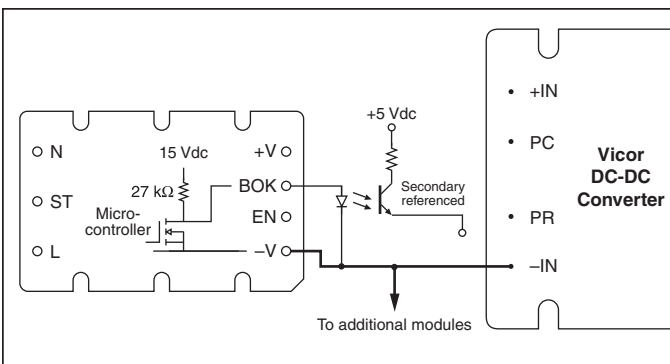

Figure 12 — Bus OK (BOK) isolated power status indicator
Bus-OK (B OK) Pin. (See Fig. 12). The Bus-OK pin is intended to provide early-warning power fail information and is also referenced to the negative output pin.
The power fail warning time (Δt) is defined as the interval between (B OK) and converter shutdown (EN) as illustrated in Fig. 12. The Bus-OK and Enable thresholds are 205 V and 190 V, respectively. A simplified relationship between power fail warning time, operating power, and bus capacitance is obtained by inserting these constants: